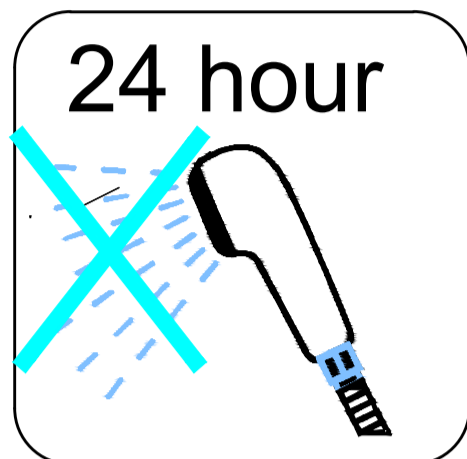

**Fig 17a**
1、 On one side of **Door Glass (D)**, the center of **Door Stoppers (K)** is about  $[2 \frac{7}{16}]$  inches from the finished wall. **(Fig 17a)**